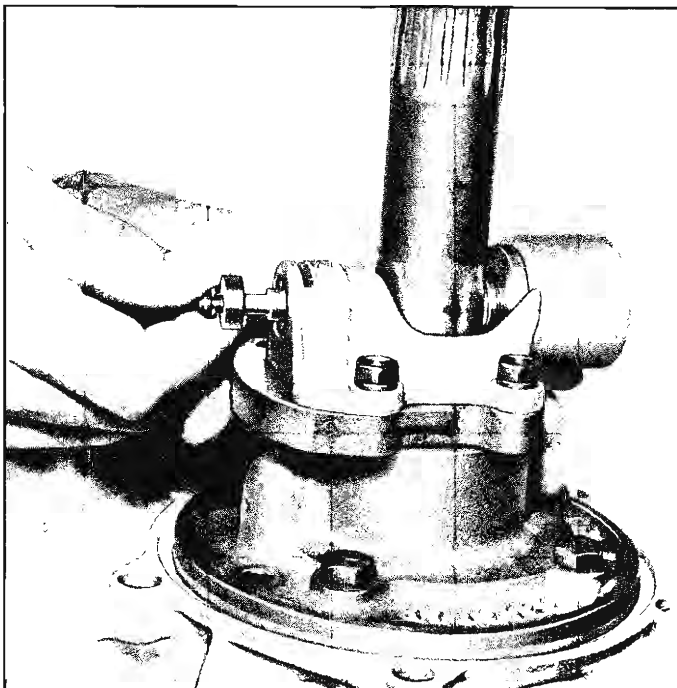

Fig. 8—Removing Governor Valve and Shaft
6. Remove the "C" clip from the governor shaft on the weight side of the governor, then remove the shaft and governor valve from the opposite side of the governor assembly (fig. 8) and the two Belleville springs.